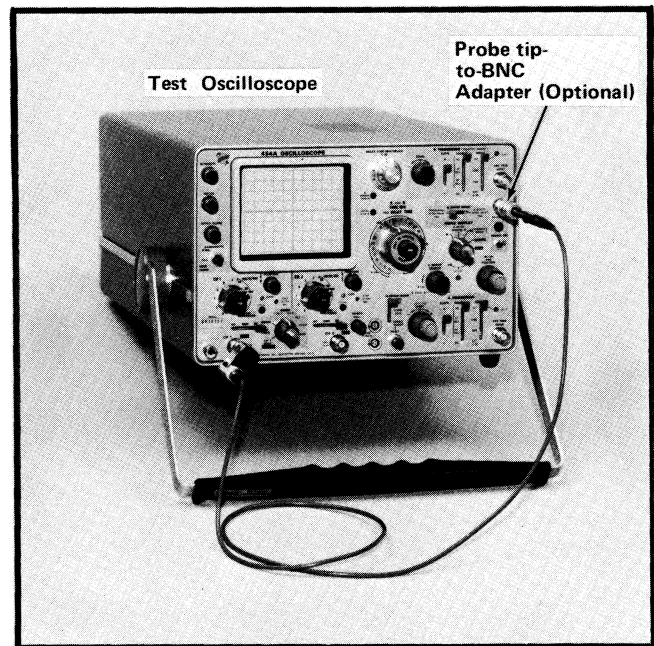

Fig. 4-1. Equipment setup for steps 1 and 2.
a. Equipment setup is shown in Fig. 4-1.